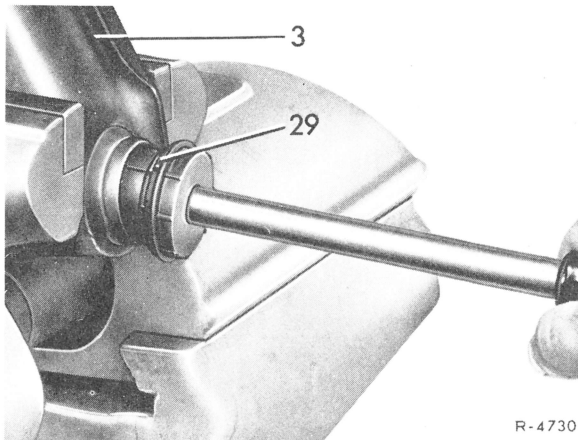

Fig. 2
- 3 Loosen outer rubber bearing by moving back and forth in lower control arm and remove (Fig. 2).